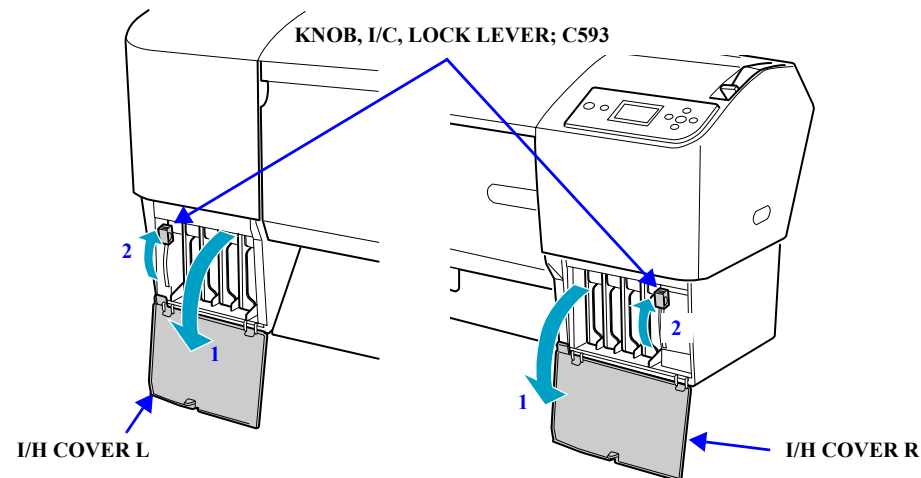

Figure 4-7. Unlocking the Ink Cartridges
1. Open the I/H COVER R and the I/H COVER L. *See Figure 4-7.*
2. Raise the two KNOB, I/C, LOCK LEVER; C593 to unlock the Ink Cartridges. *See Figure 4-7.*